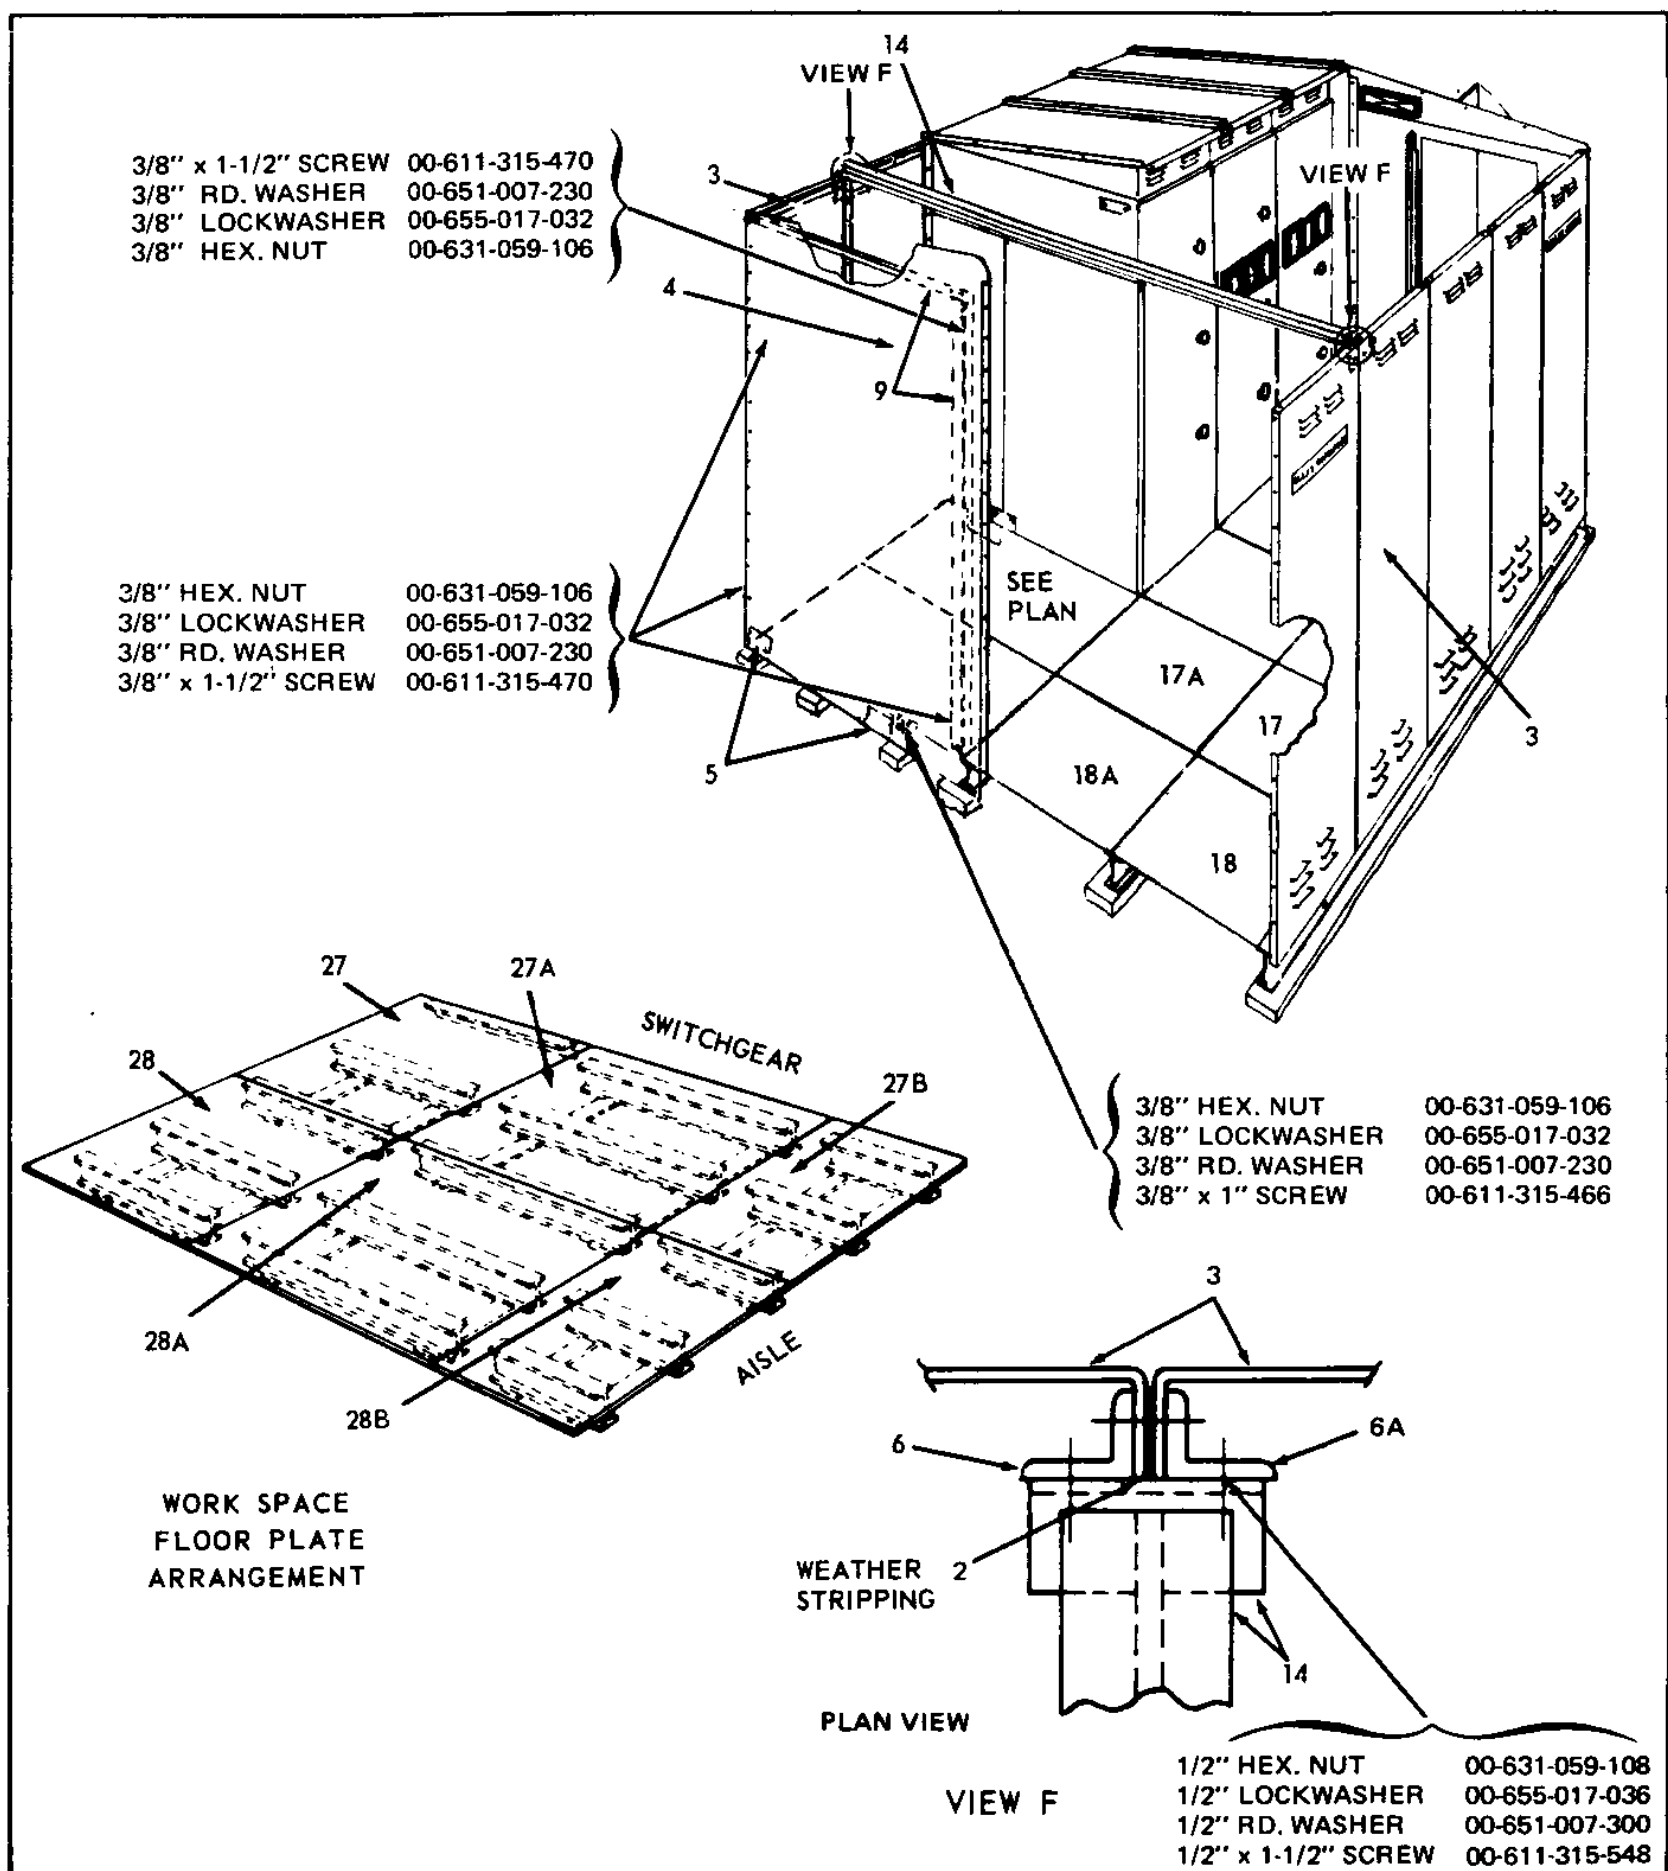

Figure 42. Floor Plate Installation (15 KV) – Single Aisle with Work Space
6. Assemble aisle walls (3). See general arrangement drawing for location of special panels for fans, etc. Apply 1/2-inch sealant tape to the joints. Place the tape so that one edge is on the vertical centerline of the holes and the other edge is toward the seam which will be exposed to the weather.
7. Bolt plates (3) together, to switchgear unit and to beam (1). Apply 1/2-inch sealant tape to the joints.
8. Attach angles (10) to ends of beams.
9. See Figure 42. Mount beams (14) between walls at each joint (view "F").
10. Mount frame (9) at end of work space.
11. Install end cover (4) and attach it to rear plate (3), frame (9) and to angles (10).
12. Install floor plates (17, 17A, 18 and 18A) in the same arrangement as that for single aisle layouts (see Figure 26). Install the floor plates in the work area as shown in Figure 42. Install covers (5).